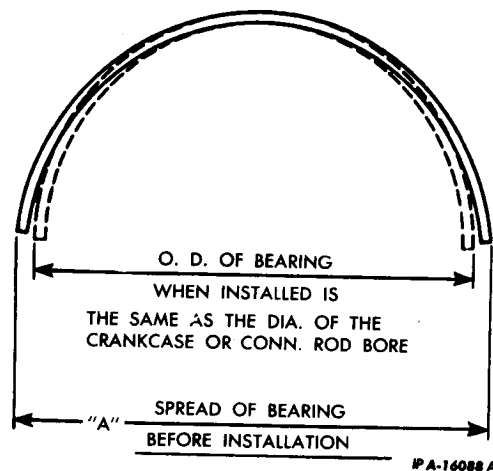

Fig. 14 - Diagram Showing Bearing Spread.
3. Main and connecting rod bearings are designed with the "spread" (width across the open ends) slightly greater than the diameter of the crankcase bore or connecting rod bore into which they are to be assembled (Fig. 14). For example, the width across the open ends of the connecting rod bearing not in place is approximately 0.025 inch more than when the bearing is in position in the rod. This condition causes the bearing to fit snugly in the rod bore and the bearing must be "snapped" or lightly forced into its seat.